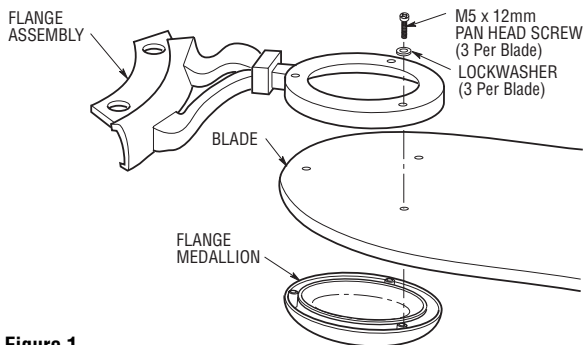

Figure 1
2. Secure the flange assembly and flange medallion to the blade using the three M5 x 12mm pan head screws and three lockwashers. Repeat for the four remaining blades. (Figure 1)